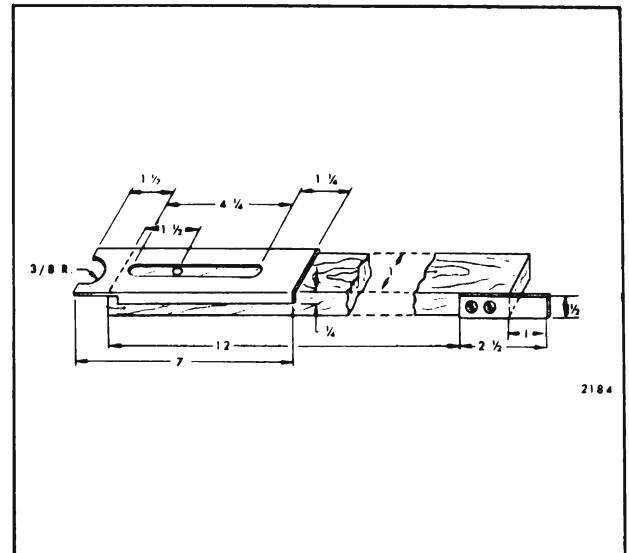

Fig. 13-11 - Spacer Stick Dimensions
25. Spacer sticks may be fabricated as shown in Figure 13-11.